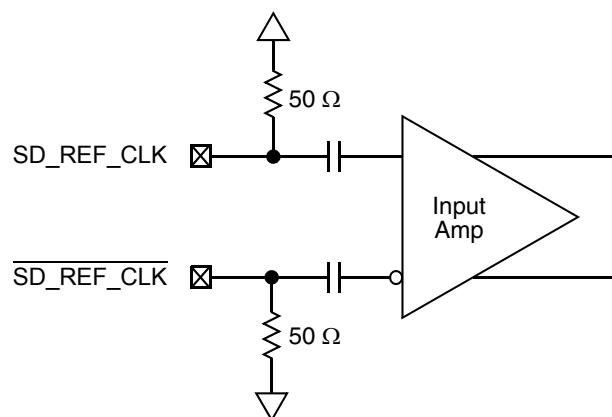

Figure 39. Receiver of SerDes Reference Clocks
Figure 39 shows a receiver reference diagram of the SerDes reference clocks.
- The SD_REF_CLK and $\overline{\text{SD_REF_CLK}}$ are internally AC-coupled differential inputs as shown in Figure 39. Each differential clock input (SD_REF_CLK or $\overline{\text{SD_REF_CLK}}$) has a 50- Ω termination to SGND_SRDSn (xc0revss) followed by on-chip AC-coupling.